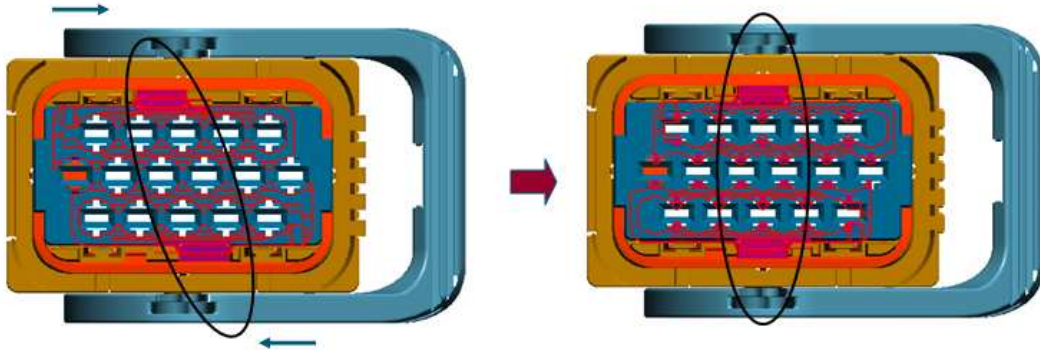
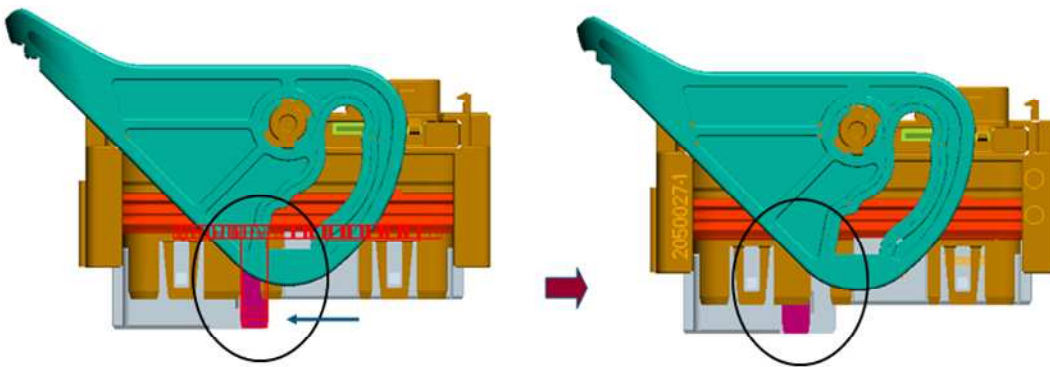
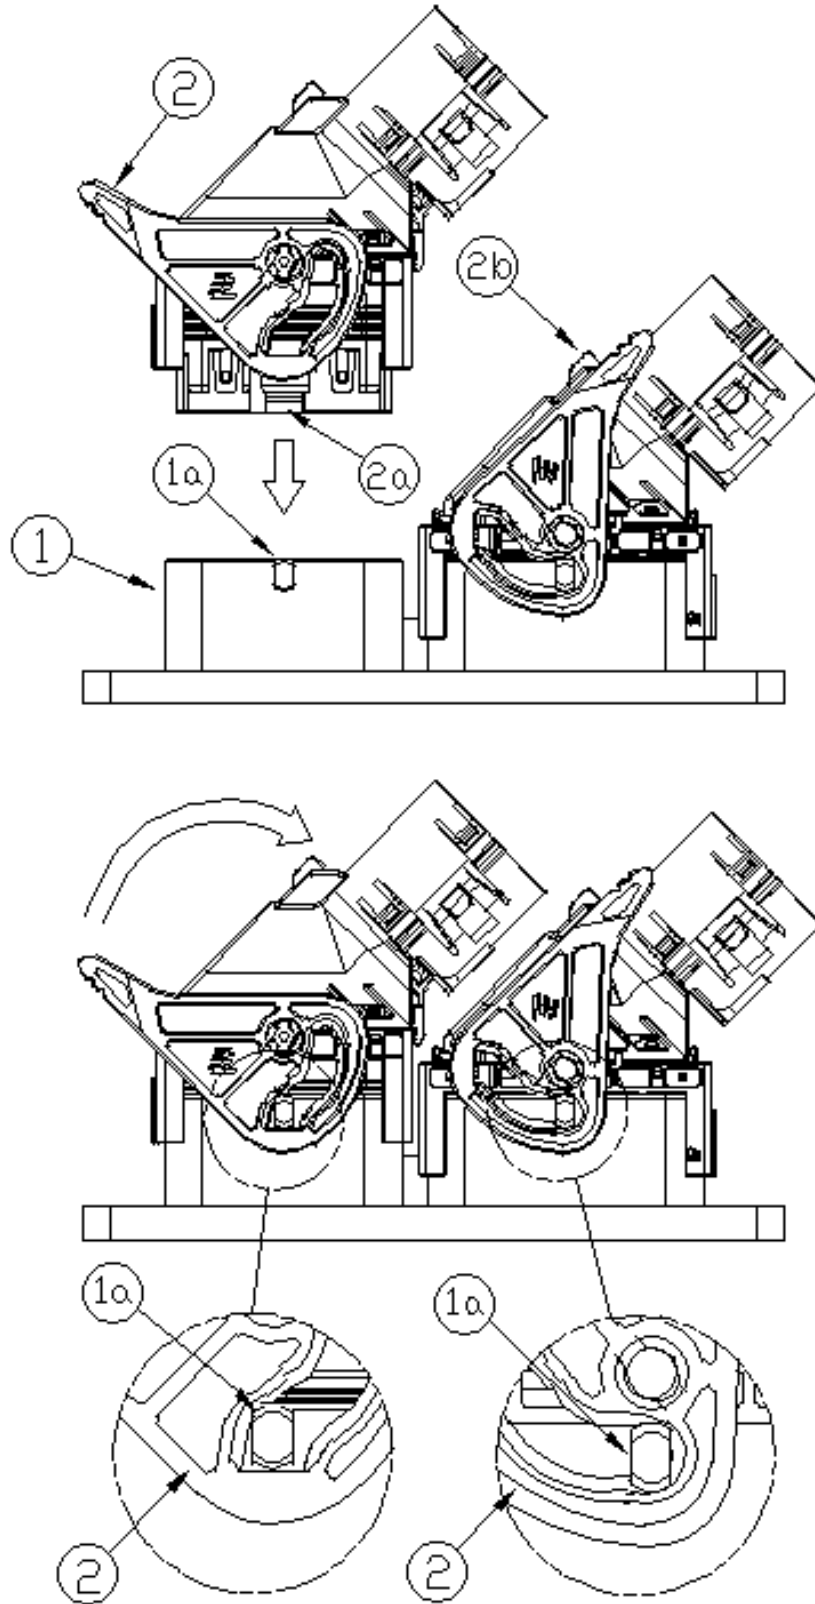

Figure 9
Figure 10
Figure 15
Before assembly, lever (2) shall be opened as shown on left side of Figure15, Assure the secondary locker is in its locking position. See Figure 9, Figure 10.
安装前，插头手把（2）须打开如图 15 左边 16 位插头所示，并确保插头上的二次锁扣位于其锁定位置，参看图 9，图 10。
When assembling, the plug shall be pre-insert into interface in place, in this situation, the interface pivot (1a) should contact with the lever cam slot small opening terrace as shown in Fig. 15, 16, 17, 18. Then rotate the lever (2) along its pivot until it is stopped by interface pivot, at the same time, the lever end should under the fixing clip (2b) of top cover. The clear releasing sound of fixing clip could be heard.
安装时，插头应向下预插入一定位置，此时对配界面的枢轴（1a）应抵住凸轮槽开口小台阶上，具体参看图 15，图 16，图 17，图 18。然后搬动手把继续在把手的凸轮槽引导下完全插到位，此时把手柄应卡入上盖锁扣（2b）并能听到清脆的卡入释放声音。
When removing the plug, press the clip on top cover to release lever from its locking position as shown below, then continue to rotate lever making the plug out of interface. Also see Figure 15 and 16.
拆开取下插头时应按下上盖的固定卡扣，同时依下图所示方向转动把手带动整个插头脱离对配插座，注意手把需转动完全打开到其装入状态时的位置，插头才能顺利的完全拿掉。同时参看图 15，图 16。